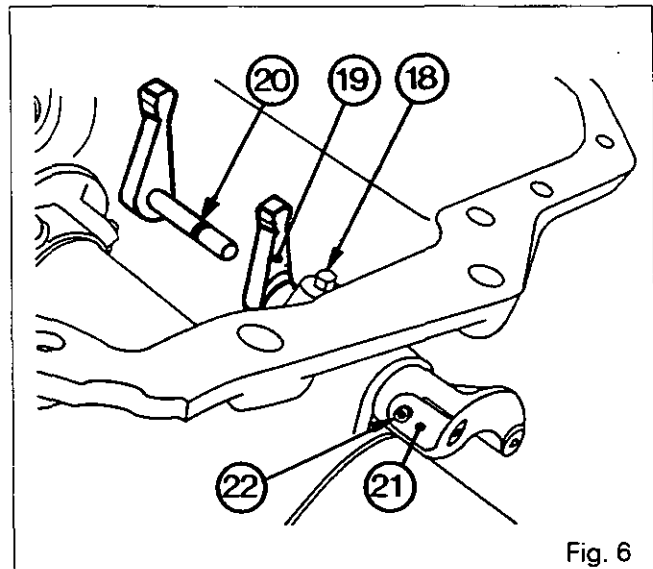
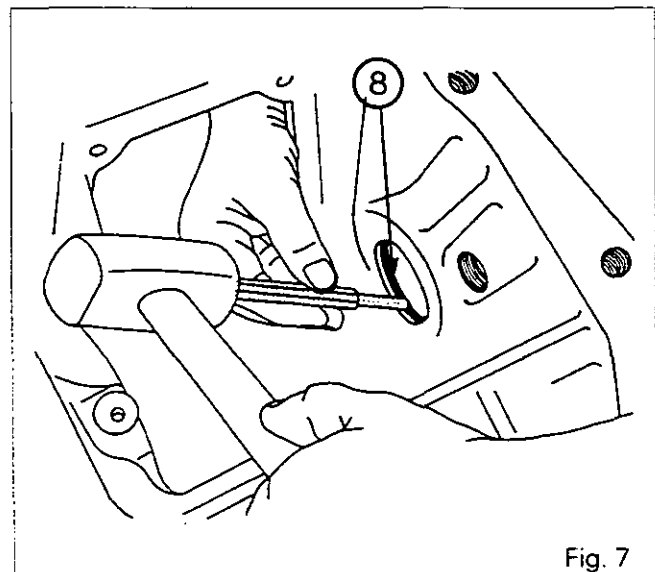

Fig. 6
Fig. 7
13. Remove the elbow connector (23).
14. Unscrew the nut (16) and remove the vehicle speed sensor (15).
15. Unscrew the nut (25) and remove the position sensor (26).
- For tractors equipped with economy 4-speed, carry out operations 16 to 19 (Fig. 6).**
16. Undo the Allen screw (22) in the lever (21).
17. Undo the screw (18).
18. Remove the control finger (19).
19. Remove the O-ring (20).
20. Flatten tabs locking the bolts (2) retaining the lift arms..
22. Remove the washers (1).
24. Remove the lift arms (5) (11) and the thrust washers (30).
25. Remove the nylon rings (6) and the O-rings (7).
26. Remove the set screws (14) in the cam (9).
27. Withdraw the lift shaft (4) from the cover.
28. Remove the cam (9).
29. Withdraw the bushes (8) (Fig. 7).
30. Remove the cup piug (17) (2-speed PTO).